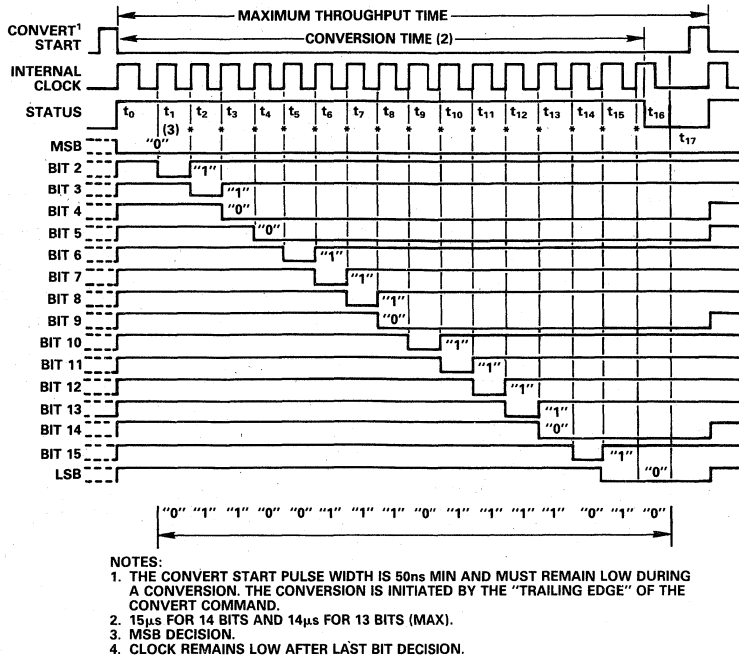

Figure 6. Timing Diagram (Binary Code 0110011101110110)
The timing diagram is shown in Figure 6. Receipt of a CONVERT START signal sets the STATUS flag, indicating conversion in progress. This, in turn, removes the inhibit applied to the gated clock, permitting it to run through 17 cycles. All the SAR parallel bits, STATUS flip-flops, and the gated clock inhibit signal are initialized on the trailing edge of the CONVERT START signal. At time  $t_0$ ,  $B_1$  is reset and  $B_2 - B_{16}$  are set unconditionally. At  $t_1$  the Bit 1 decision is made (keep) and Bit 2 is reset unconditionally. This sequence continues until the Bit 16 (LSB) decision (keep) is made at  $t_{16}$ . The STATUS flag is reset, indicating that the conversion is complete and that the parallel output data is valid. Resetting the STATUS flag restores the gated clock inhibit signal, forcing the clock output to the low Logic "0" state. Note that the clock remains low until the next conversion.
**Short Cycle Input:** A Short Cycle Input, pin 32, permits the timing cycle shown in Figure 6 to be terminated after any number of desired bits has been converted, permitting somewhat shorter conversion times in applications not requiring full 16-bit resolution. When 10-bit resolution is desired, pin 32 is connected to Bit 11 output pin 11. The conversion cycle then terminates and the STATUS flag resets after the Bit 10 decision (timing diagram of Figure 6). Short cycle connections and associated 8-, 10-, 12-, 13-, 14-, and 15-bit conversion times are summarized in Table I, for a 933kHz clock.